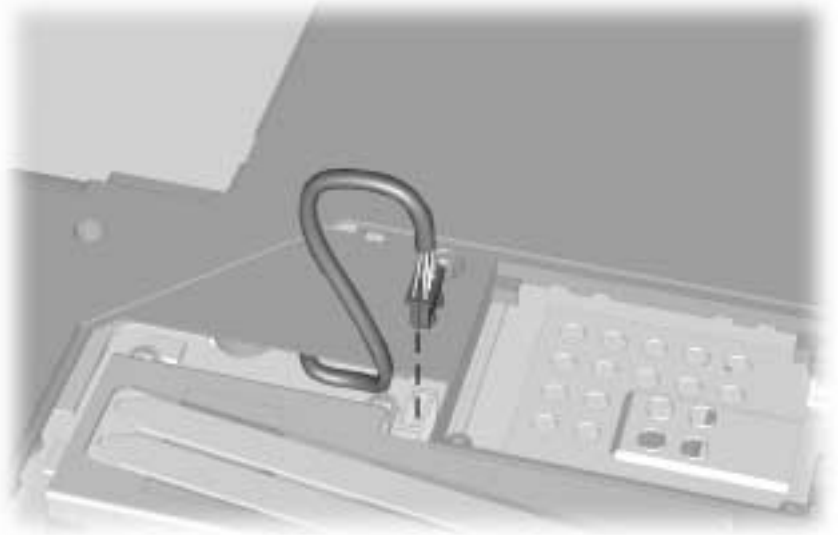

Figure 5-24. *Disconnecting the Battery Terminal Cable*
3. Disconnect the battery terminal cable from the system board (Figure 5-24).